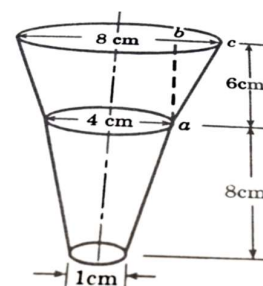

Fig. 12.14
- (ii) Estimate the cost of metal sheet for preparing a funnel as shown in Fig. 12.14. Assume the wastage of metal as 15% and cost of the sheet as Rs.45/m².